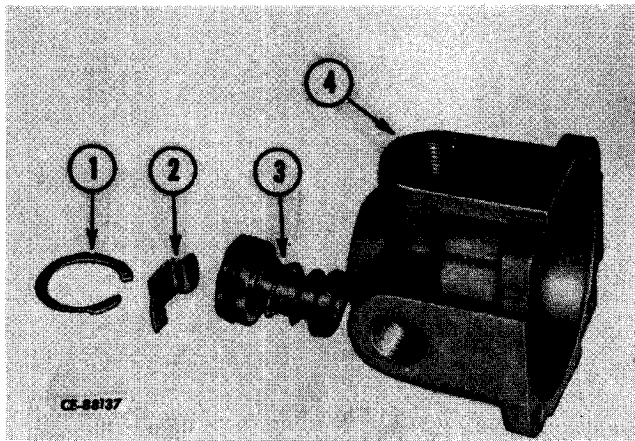
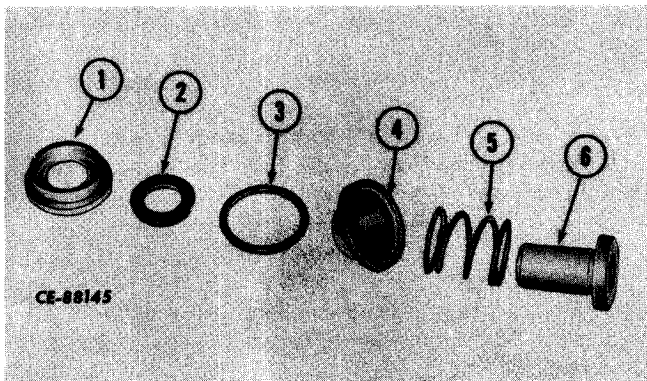

Figure 13-25
Figure 13-26
Using snap ring pliers, remove retaining ring (1, Fig. 13-25). Remove exhaust shield (2) and inlet and exhaust valve assembly (3) from lower body (4).
Disassemble valve assembly (3, Fig. 13-25) by removing inlet valve (6, Fig. 13-26), spring (5), valve guide (4) and seal (3) from shield retainer (1). Remove vee packing (2) from groove in retainer. Discard seal (3).
Install vee packing (2, Fig. 13-26) in groove of shield retainer (1). Install a new seal (3) and guide (4) on retainer. Insert inlet valve (6) into spring (5), guide and retainer.
Insert inlet and exhaust valve assembly (3, Fig. 13-25) and exhaust shield (2) into lower body (4) and secure with retaining ring (1).